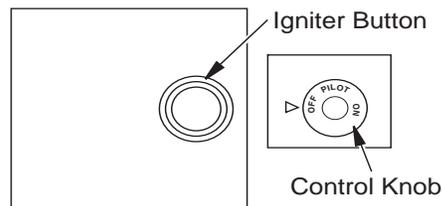

Figure 51 - Control Knob and Igniter Button Location
5. Wait five (5) minutes to clear out any gas. Then smell for gas, including near the floor. If you smell gas, STOP! Follow "B" in the safety information, column 1. If you don't smell gas, go to the next step.
6. Press in and turn control knob counter-clockwise  to the PILOT position. Press in control knob for five (5) seconds (see **Figure 51**).